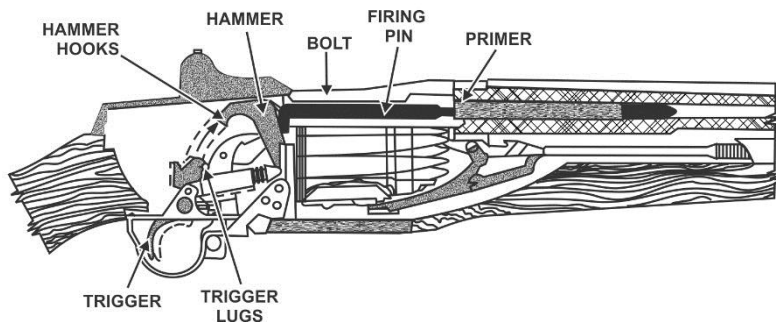

Figure 61. Firing
- 4) **Firing.** Firing occurs when the firing pin strikes the primer. As the trigger is pulled the trigger lugs are disengaged from the hammer hooks and the hammer is released. The hammer moves forward under the force of the hammer spring and strikes the tang of the firing pin, driving the firing pin against the primer and firing the round (fig 61).